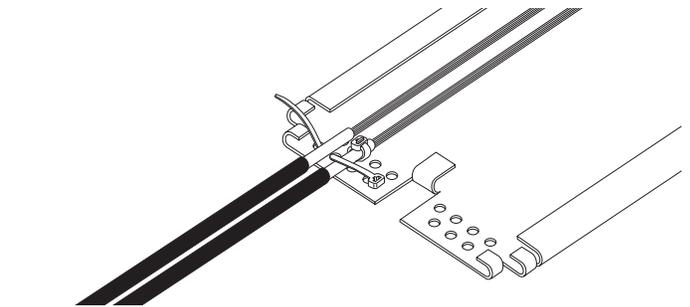

Figure 19
- a) Secure the two ends of the buffer tube to a splice tray with small cable ties (Figure 19).